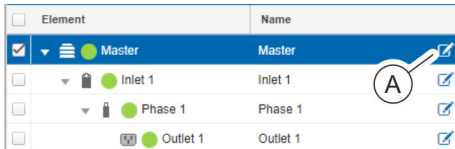

Fig. 97: Select the element
1. In the “Name” column, click on the pencil icon next to the element in question (Fig. 97/ⓐ).